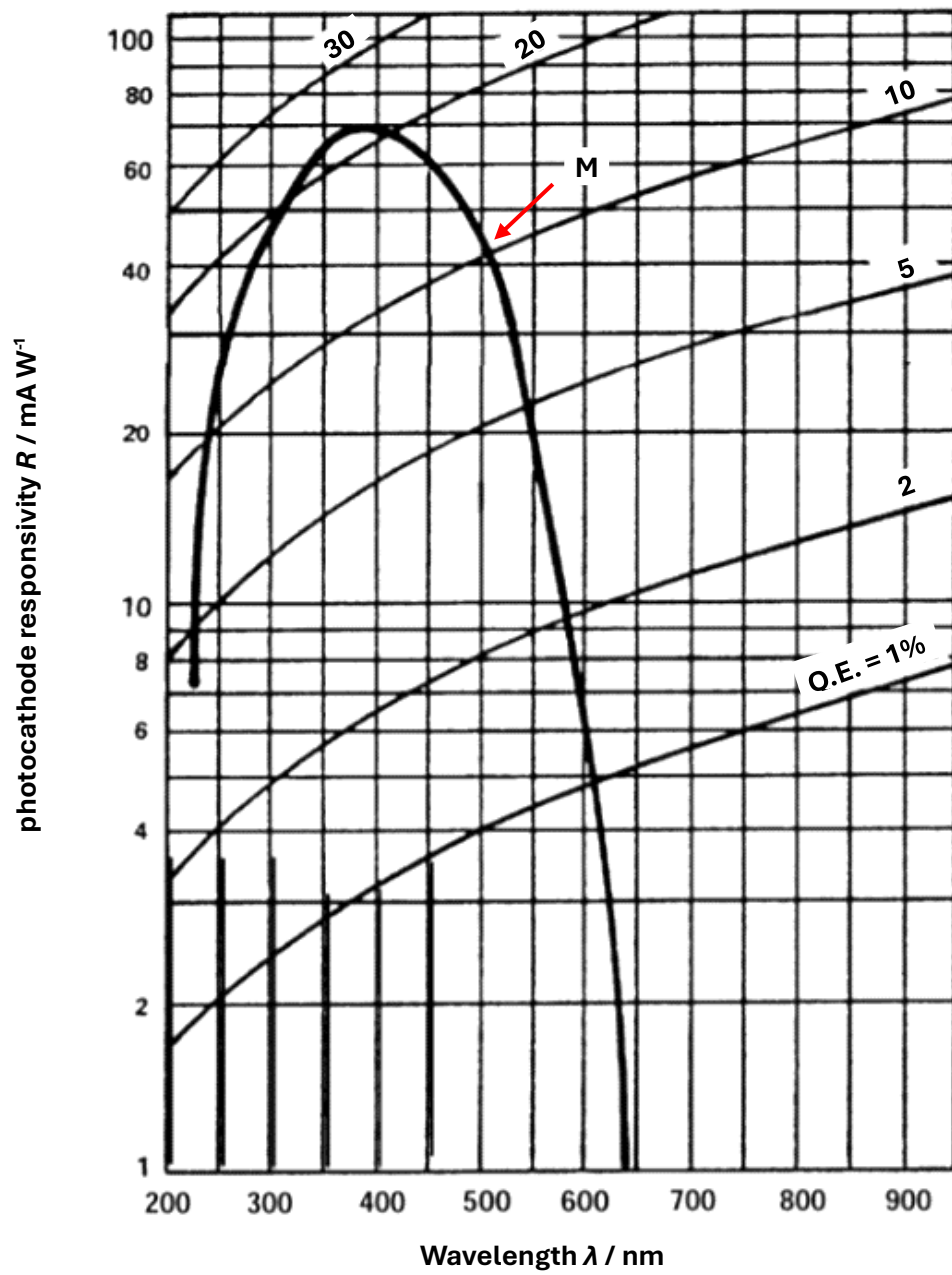

Fig 7.2
Fig. 7.2 shows the graph of photocathode responsivity R versus wavelength of incident light λ and some of Quantum Efficiency (QE) lines of a metal used as photocathode in the PMT. The intersections of the graph and the QE lines show the Quantum Efficiencies at various wavelengths.
For example, when the graph and the QE lines intersect at M as shown in Fig. 7.2, it means that the number of electrons collected at the anode per unit time is 10% of the total number of incident photons per unit time when a light of 510 nm is incident on the photocathode.
- (iii) With reference to Fig. 7.2, state the threshold wavelength and explain how it was determined.
- (ii)** Hence, using Fig. 7.2, calculate the number of incident photons per unit time on the photocathode.
- (iii) From Fig. 7.2, the photocathode responsivity of the PMT can be estimated to be 4.8 mA W^{-1} . Use your understanding of current and power, suggest the meaning of 4.8 mA W^{-1}
Using Fig. 7.2, show that for the photocathode used in the PMT, this relationship is true when η is 5 %.
(iii) Hence, plot the line $\eta = 3\%$ on Fig. 7.2.